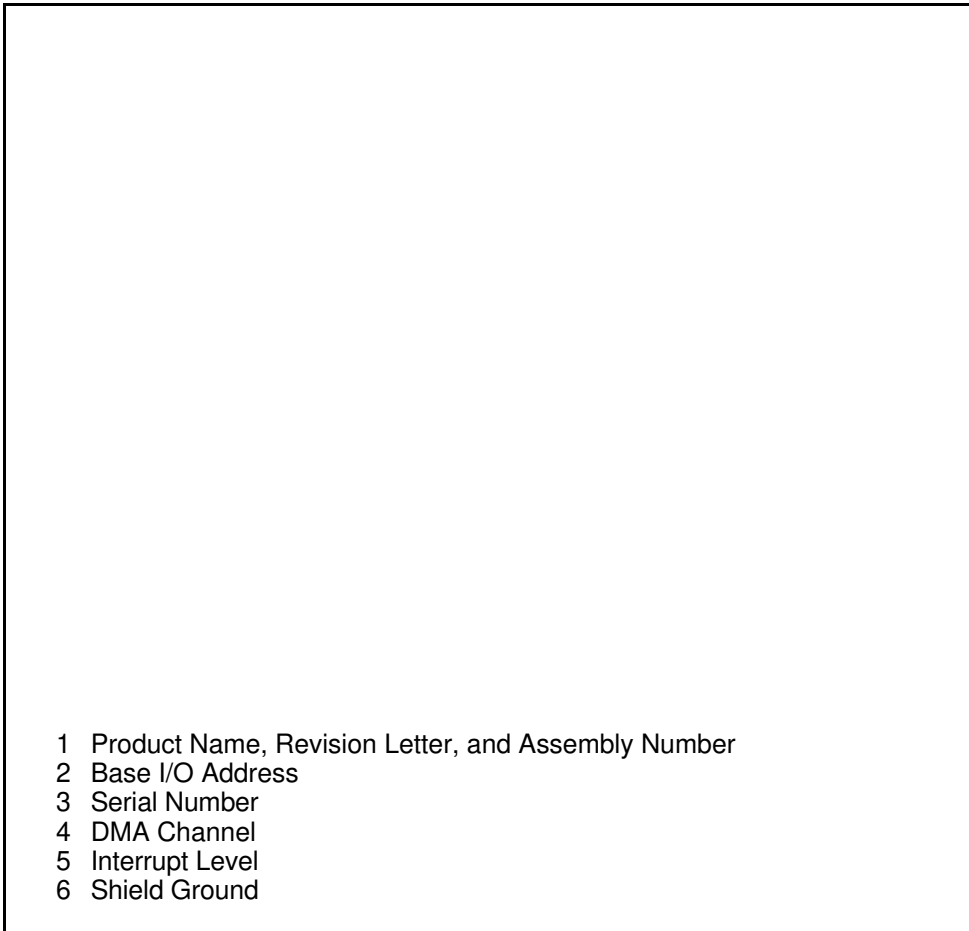
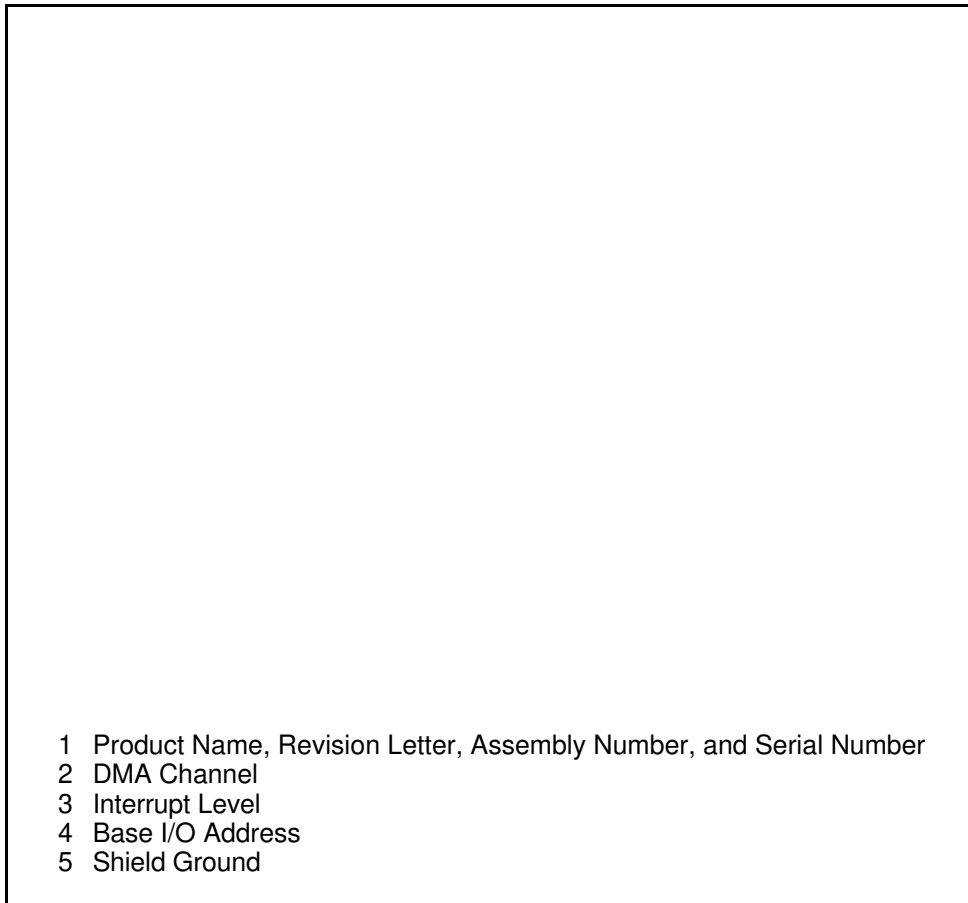

Figure 2-2. AT-GPIB/TNT Parts Locator Diagram
Figure 2-3. AT-GPIB Parts Locator Diagram
Figure 2-2 shows the location of the configuration jumpers and switches on the AT-GPIB/TNT board.
Figure 2-3 shows the location of the configuration jumpers and switches on the AT-GPIB board.
2. Locate the base I/O address switch at SW1 on your AT-GPIB/TNT board or at U25 on your AT-GPIB board. Refer to the appropriate parts locator diagram, Figure 2-2 or 2-3.
2. Find the jumpers that set the interrupt request line. The jumpers are located on the lower edge of your GPIB board. Refer to the appropriate parts locator diagram, Figure 2-2 or 2-3.
2. Locate the jumpers that select the DMA channel. Refer to the appropriate parts locator diagram, Figure 2-2 or 2-3.
1. Refer to Figure 2-2 to locate the shield ground jumper W3 on the AT-GPIB/TNT board. If you are using the AT-GPIB board, refer to Figure 2-3 to locate the shield ground jumper W1.